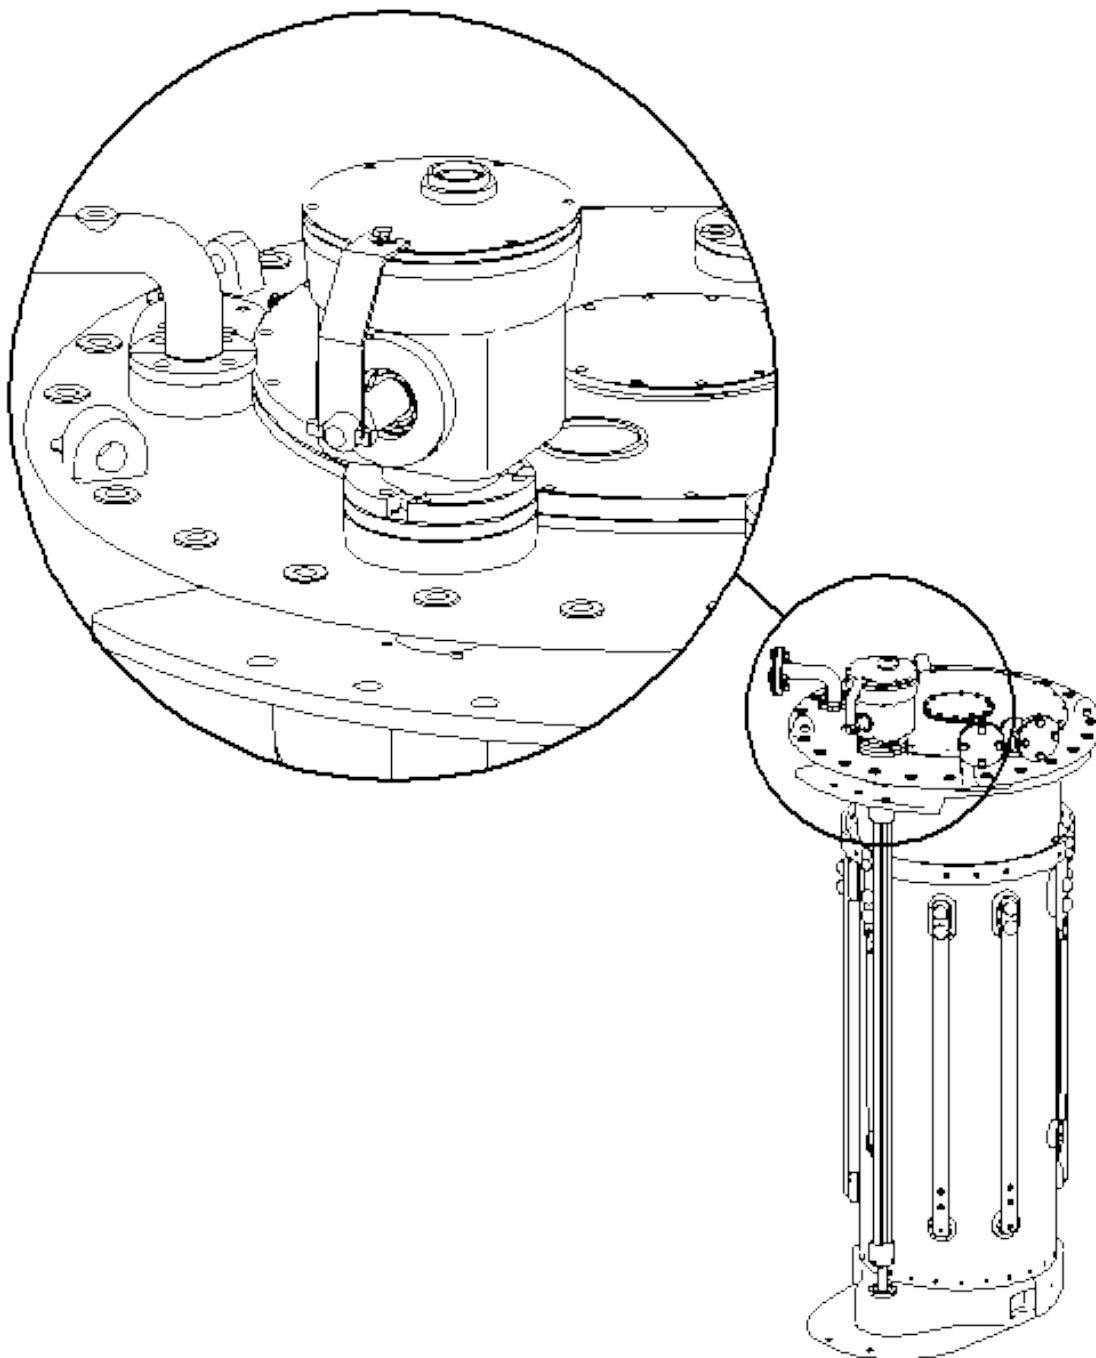

Figure 5-2 Stop Plate Locking Position on the Spur Gear Box
1. Verify that the stop plate on the OLTC spur gear box is secured (see Figure 5-2).